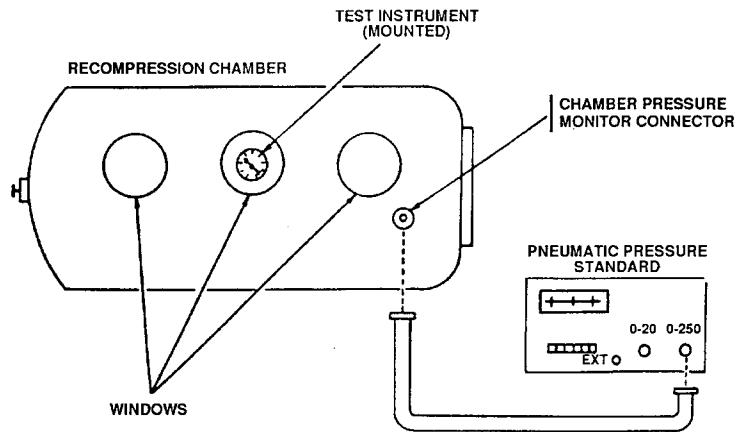

Figure 2. Depth gage (caisson) - equipment setup.
a. Connect equipment as shown in figure 2.